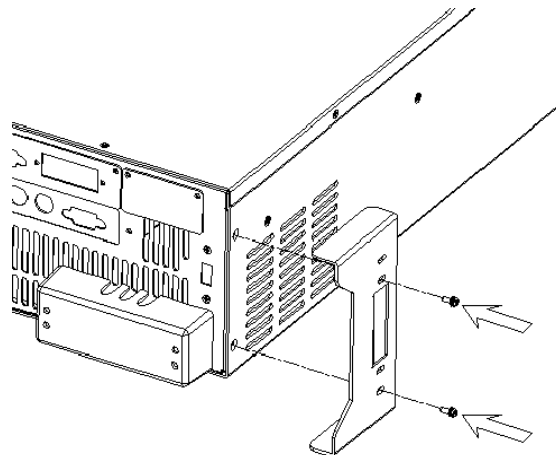

Figure 2
2. Mount the protection plates with the screws included in the bag (Figure 2).